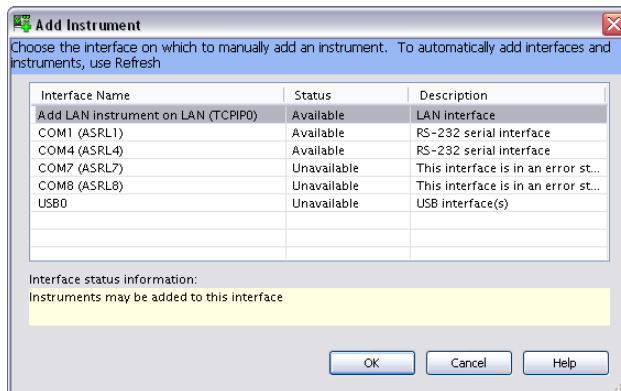

Figure 1-12 Add Instrument window
- 2 On the Agilent Connection Expert window, click on  **Add Instrument**. An Add Instrument window will be prompted out. Select **Add LAN instrument on LAN (TCPIPO)** interface and click **OK** (see Figure 1-12).